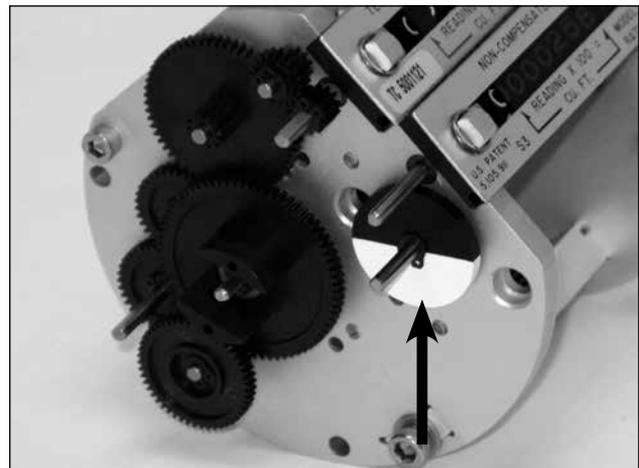

Figure 7 - Movement of the RPM wheel indicates impeller rotation.
- b) Partially open the meter inlet gas valve until the meter starts operating at low speed. Throttling the bypass valve may be necessary to initiate gas flow through the meter. Verify gas is flowing through the meter by watching for movement of the black-and white RPM wheel on the Accessory Unit. The wheel, shown in Figure 7, is visible from either the front or the side of the polycarbonate cover on a standard counter meter. If movement is present, go to step c). If the RPM dial is not turning, verify gas is being delivered to the meter. If gas is flowing to the meter inlet and the RPM wheel is not moving, go to step e).
NOTE: On both Imperial and Metric versions, the high speed, black-and-white proving wheel attached to the end of the RPM drive shaft is visible either from the front or the end of the accessory and can be used for verification of unit operation and meter testing. Refer to “Proving Operations.” The wheel is also shown in Figure 7 in the “Meter Start-Up” section.